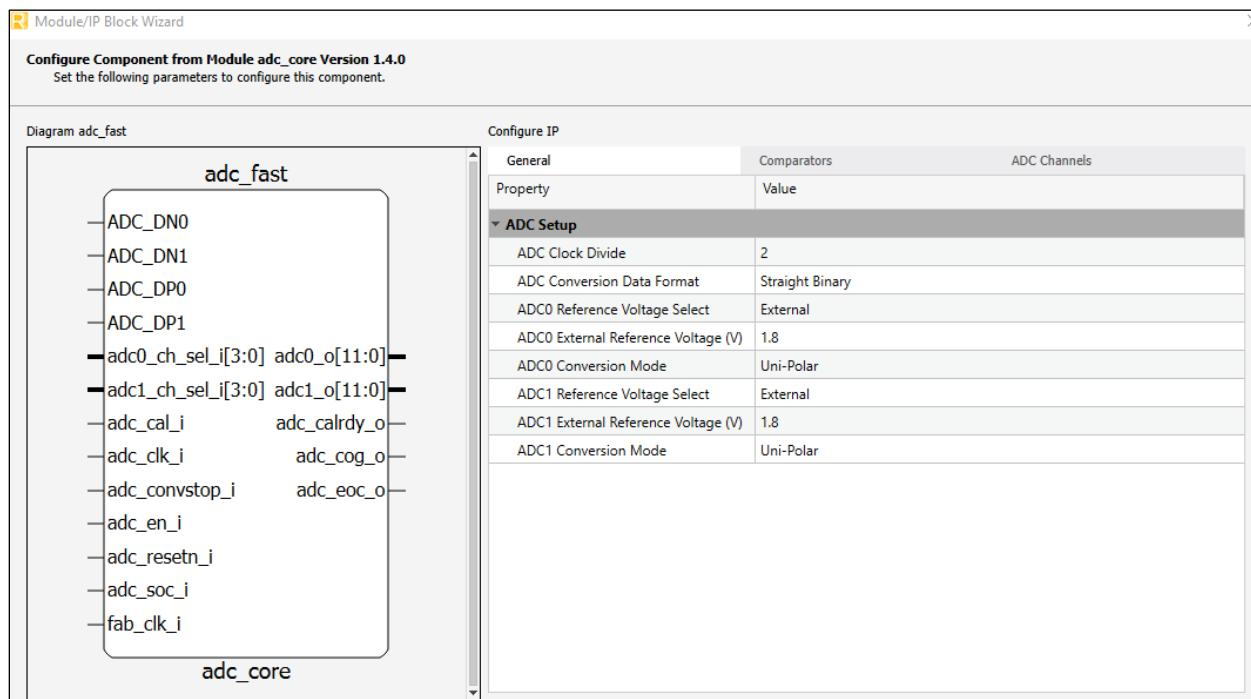

Figure 3.10. ADC Configuration Options
- $CLKDIV$  is the value by which the `adc_clk_i` is internally divided, as shown in Figure 3.10.